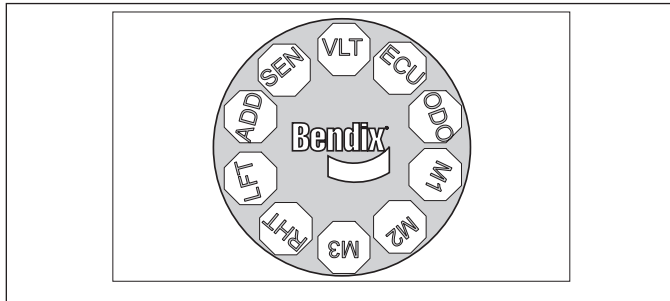

Figure 12 – The Bendix® TRDU Tool Display
If the ABS ECU has at least one (1) active DTC, the TRDU tool displays the first DTC by illuminating the red LEDs, indicating the malfunctioning ABS component and its location on the vehicle. *See Figures 12 and 13.*